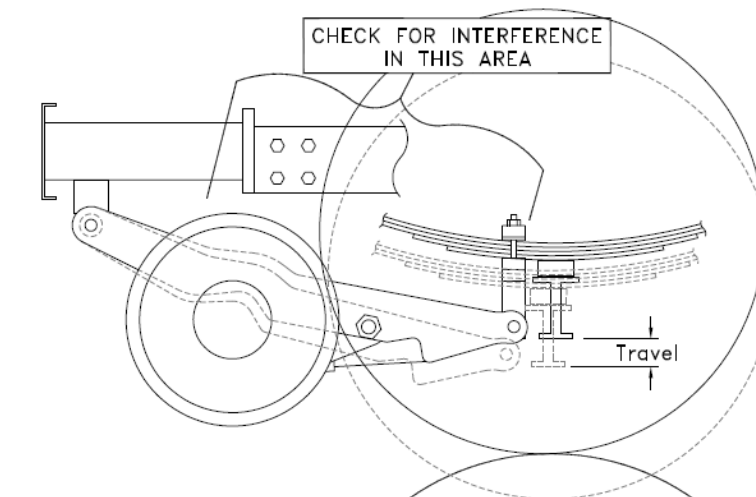

Figure 4.5.4.B GM 45/5500 Clearance Envelope
6. In order to install the front of the front Railgear at the correct height, the center of the front mounting pins must be located at 22-1/2" (+/- 1/2") from the ground (with the truck tires on the ground) as shown in Figure 4.5.4. If required, space the cross tubes down to obtain this 22-1/2" up to a maximum of 3" of spacers. Any spacers used should be load bearing members (no thin wall tubing). If you need more than 3" of shims, a change of cross tubes / mounting block may be required. See section 8.0 for information. Contact DMF for assistance.
8. Check for truck frame, spring, steering gear or other truck component interference with the Railgear, particularly the long arms. See CLEARANCE NOTE and Figure 4.5.4.B.